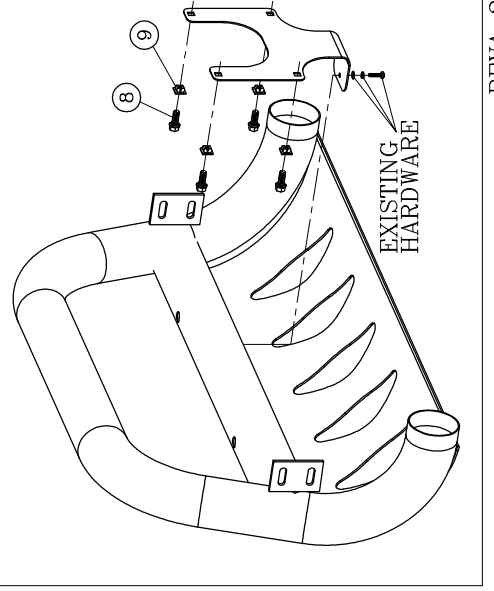

fig. 1
3. INSTALL THE RIGHT HAND MOUNTING BRACKET (ITEM #2) BETWEEN THE FRAME AND THE TOW HOOK AS SHOWN IN FIG. 1 USING THE SUPPLIED HARDWARE (ITEM #4 & #7). LEAVE THE BOLTS FINGER TIGHT AT THIS TIME.
**NOTE: BASED ON YOUR STATE AND LOCAL LAWS, DETERMINE IF YOU NEED TO RELOCATE YOUR LICENSE PLATE PRIOR TO STEP #5. REMOVE/RELOCATE/INSTALL YOUR LICENSE PLATE BRACKET AND LICENSE PLATE BEFORE MOUNTING THE BULL BAR TO YOUR VEHICLE (SEE FIG 1).**